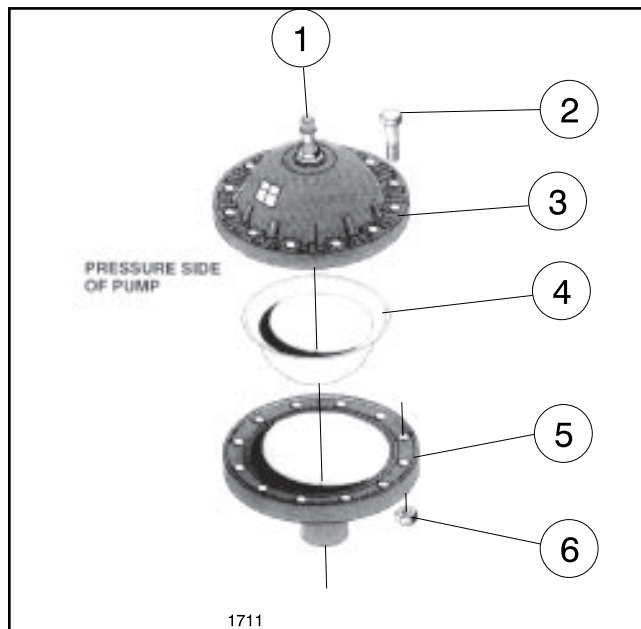

FIG. 13
1. The pressure dampener has one diaphragm in the pressure damper compartment. Dismantle the compartment by removing the twelve (12) bolts. Remove the diaphragm and replace it with the new diaphragm (See FIG. 13).
2. Bolt the compartment together by using the twelve (12) previously removed bolts.